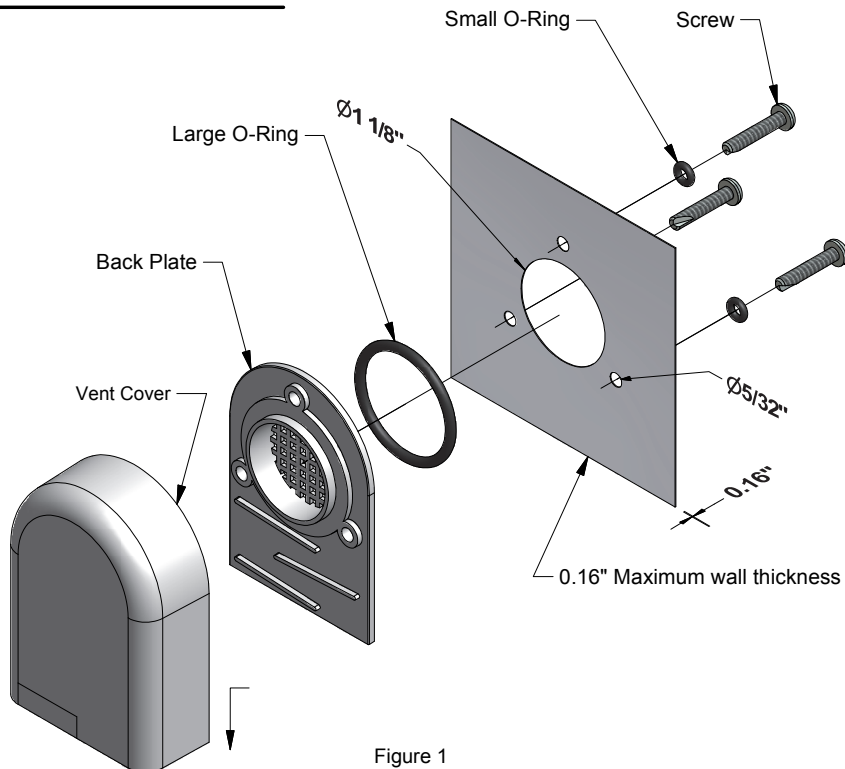

Figure 1
4. Assemble the vent cover, back plate and large o-ring in the hole pattern. Install the screws and small o-rings as shown in Figure 1. Do not over tighten!